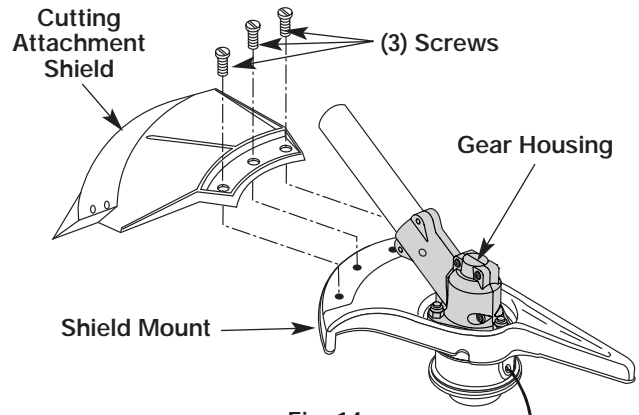

Fig. 14
Remove the cutting attachment shield from the shield mount by removing the three (3) screws with a flat blade screwdriver (Fig. 14). Store parts for future use.
Install the cutting attachment shield on the shield mount by inserting the three (3) screws into the shield mount. Tighten securely with a flat blade screwdriver (Fig. 14).